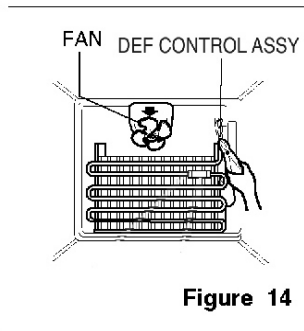

Figure 14
2. Separate the connector connected with the Def Control Assy and replace the Def Control Assy after cutting the Tie Wrap and removing the Holder Fuse. (Figure 14)